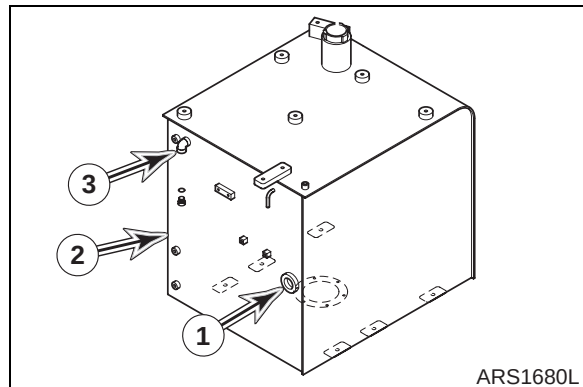

Figure 8
16. Tag and disconnect wires leading to fuel sensor (1, Figure 8) on side of fuel tank (2).
17. If equipped, remove components from fuel filler pump port (3, Figure 8) on side of fuel tank (2).